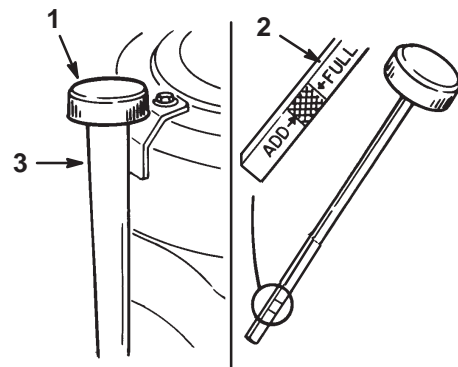

Figure 38
4. Clean around the oil dipstick (Fig. 38) so that dirt cannot fall into the filler hole and damage the engine.
5. Unscrew the oil dipstick and wipe the metal end clean (Fig. 38).
6. Slide the oil dipstick fully into the filler tube, but do not thread onto tube (Fig. 38).
7. Slowly pour approximately 80% of the specified oil (refer to Service Interval/Specification, page 31) into the filler cap (Fig. 38).